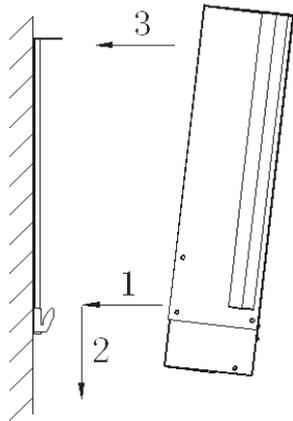

Fig. 5
- Hang the heater on the hooks at bottom and push the heater into the mounting bracket and then fix it using the 2pcs M5×8 screws. (Fig. 5) (These were removed in step 1)